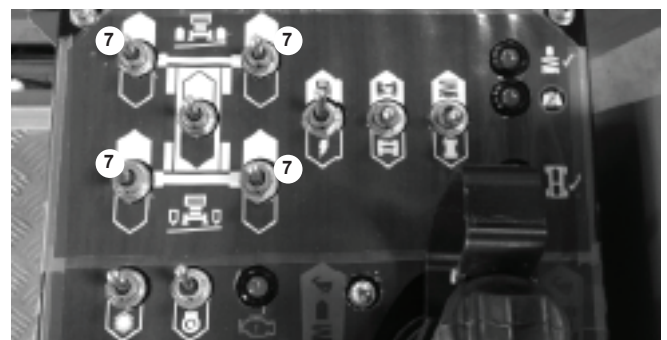

Figure 8.15
- Completely lower the platform. Then push and hold the stabiliser switches (7) forward until all the stabilisers are completely up (see figure 8.15).